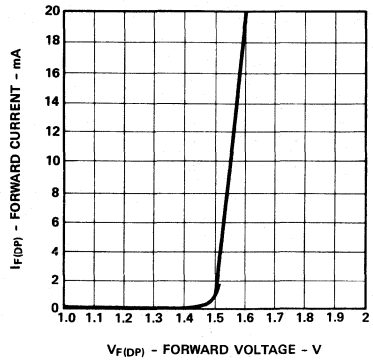

Figure 3. Forward Current vs. Forward Voltage
- $V_{F(DP)}$  is not tested. See Figure 3 for forward voltage versus forward current.